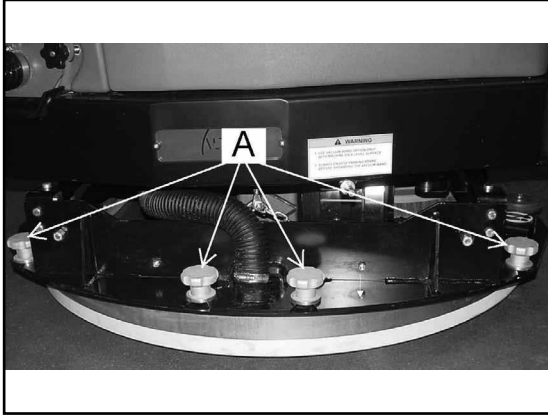

FIGURE 73
1. Fig. 73. Loosen the four aluminum knobs (A).